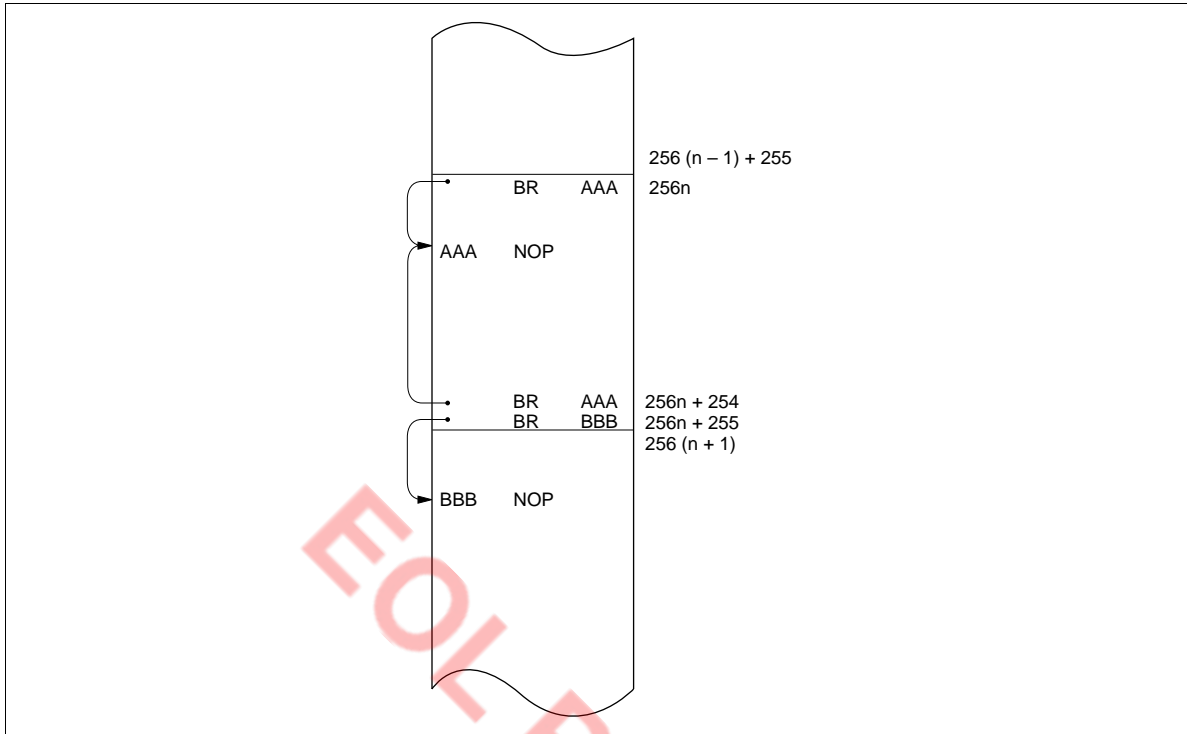

Figure 83 Branching when the Branch Destination is on a Page Boundary
**Current Page Addressing Mode:** The MCU has 64 pages of ROM with 256 words per page. A program can branch to any address in the current page by executing the BR instruction. This instruction replaces the eight low-order bits of the program counter ( $PC_7$ – $PC_0$ ) with eight-bit immediate data. If the BR instruction is on a page boundary (address  $256n + 255$ ), executing that instruction transfers the PC contents to the next physical page, as shown in figure 83. This means that the execution of the BR instruction on a page boundary will make the program branch to the next page.